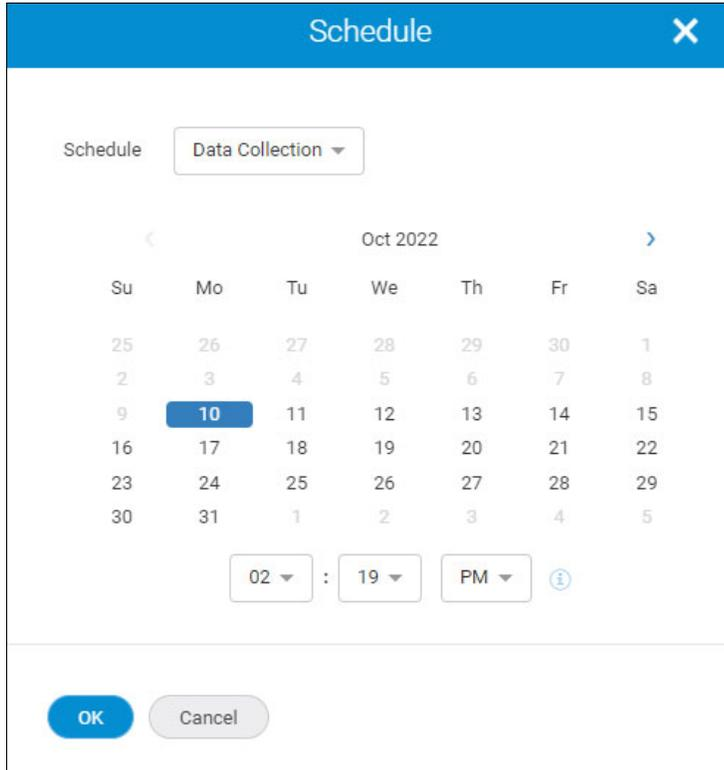

Figure 5-130 Selecting the start date and time for data collection
6. Select the start date and time for the data collection (Figure 5-130).